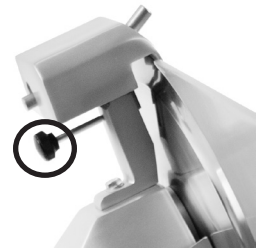

Figure 15-2
4. Tighten sharpener release knob (Fig. 15-2).